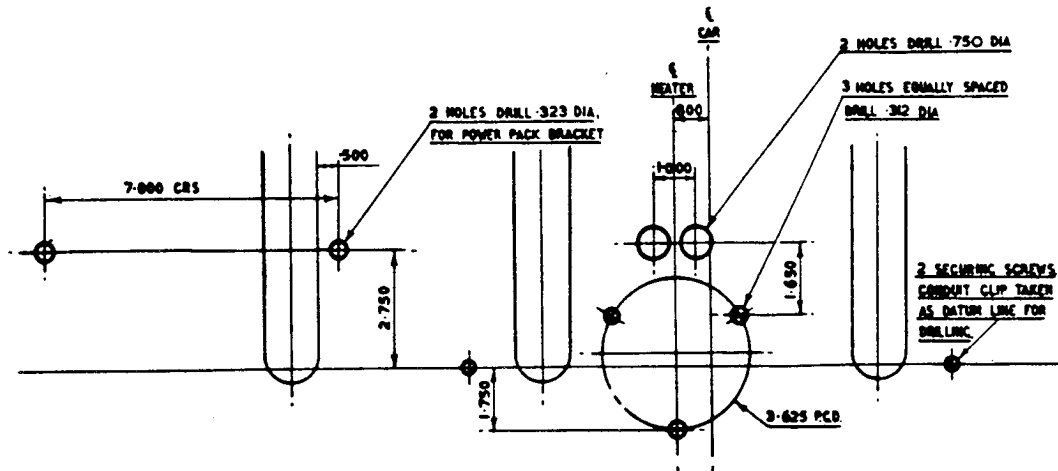

Fig. 3. CHASSIS NOS. B.2.AK - B.271.EW - RIGHT-HAND DRIVE.
3. Remove the dashboard carpet and lift the insulating material. Mark off and drill the dashboard in accordance with the following drawings (Figs. 3, 4, 5, 6 and 7) where applicable.